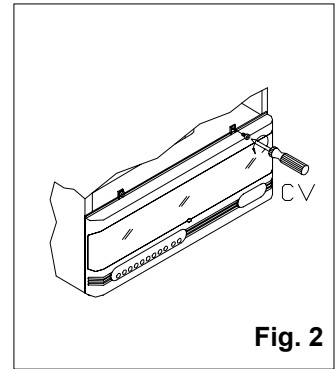

Fig. 2
- Undo the two side screws on the instrument panel using the phillips screwdriver CV and pull down the cover (see fig.2).